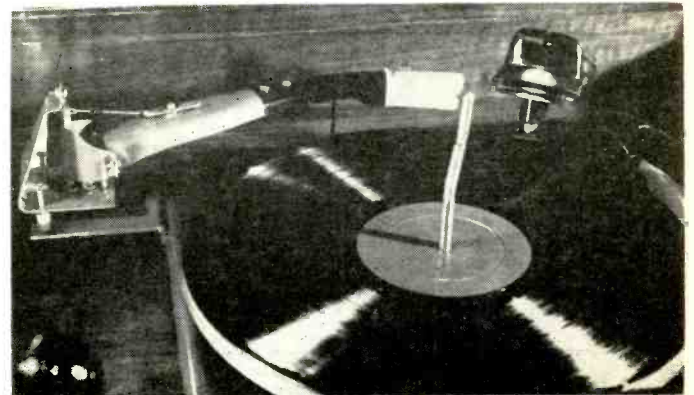

Fig. 3. The new arm is mounted on an outboard flanged plate to accommodate the increased length.
Since the record changer's mounting springs permit relative motion between the changer and the mounting board, the arm could not be mounted on the board as a separate unit, but had to be free to move with the changer. This requirement accounts for the heavy outboard flanged plate mounting bracket which is bolted to the edge of the changer base (at left in Fig. 3). This black steel plate, about 3/32 in. thick, was bent on a brake in the sheet-metal shop. Lighter-gauge galvanized sheet steel was selected for the rest of the hinge assembly (detailed in Fig. 4) so that no tools other than two pairs of pliers would be needed to form the pieces. The bearings for both horizontal and vertical
The ideas set forth in the discussion of the single-ended circuit apply equally well to the push-pull case. That is to say, the amplifier prefers to work from a high-impedance driving source. Figure 3(A) shows how this would be applied for two reasonably well matched units. If the units are not well matched then Fig. 3(B) is more useful since it allows changes to be made in each half of the circuit individually. It is to be noted that this latter circuit only is capable of adjusting each transistor for best performance and cancels no distortion.